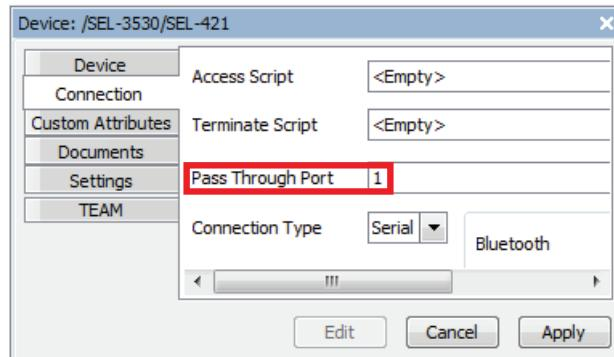

Figure 121 Configure Relay Port Connection
Step 16. Double-click **SEL-421** in the Connection Explorer and select **Edit**. Select the **Connection** tab and configure **Pass Through Port** as shown in *Figure 121*. Match the pass through port to the serial communications port configured on the RTAC. In this example, set **Pass Through Port** to **1**. This is mainly necessary to assign a unique index to the relay in the TEAM database.